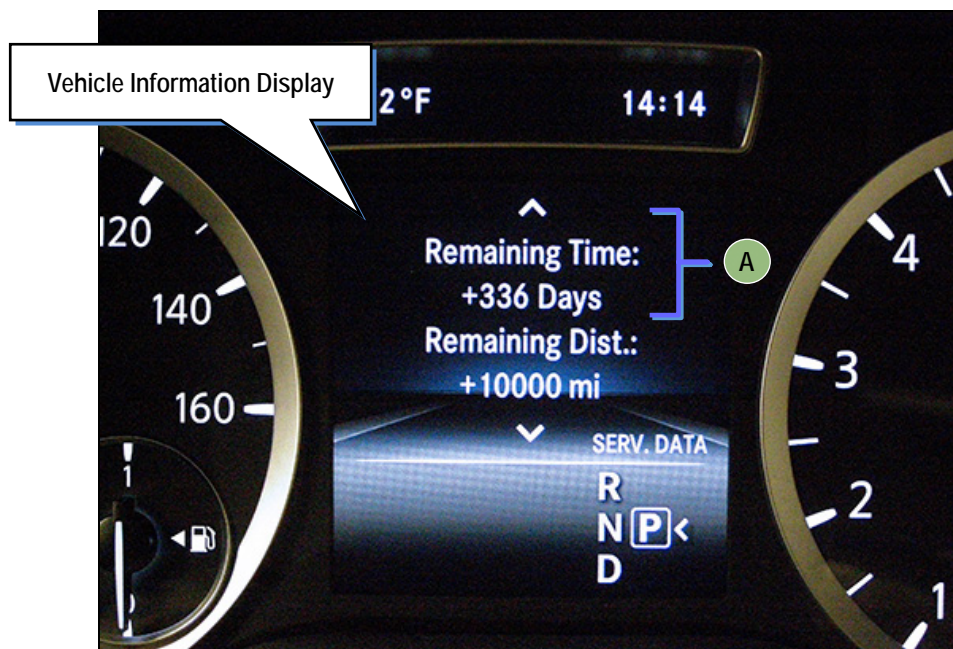

Figure 1
- This process resets the “Remaining time:” information shown in Figure 1, below, on the Vehicle Information Display.